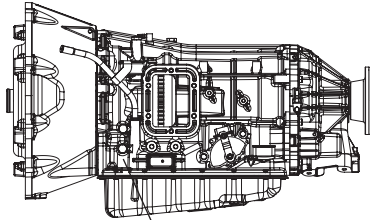

Fig. 18
6. Locate the transmission main pressure port (see figure 18). Remove the installation kit 48TK5472 components from the FA6B PTO carton. Locate the straight fitting (43T39222) and the elbow fitting (43T36445).